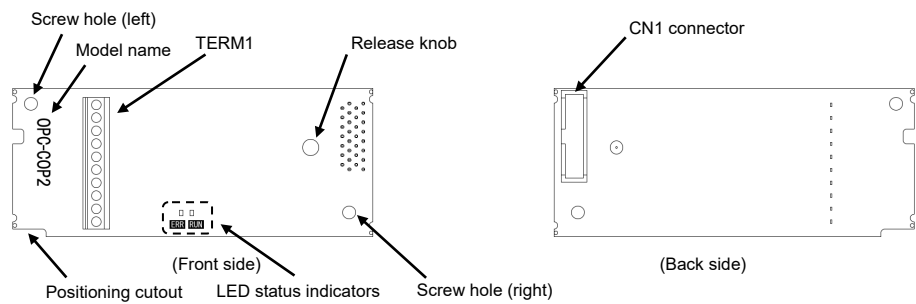

Figure 2.1 Names of Parts on CANopen Communications Card
- (1) A communications card, two screws (M3 × 8), and the CANopen Communications Card Instruction Manual (this manual) are contained in the package.
- (2) The communications card is not damaged during transportation--no defective parts, dents or warps.
- (3) The model name "OPC-COP2" is printed on the communications card (see Figure 2.1).
Figure 2.1 shows the names of the parts on the CANopen communications card.
- (2) Insert connector CN1 on the back of the communications card (Figure 2.1) into the option connection ports. Then secure the communications card with the two screws that come with the card. (Figure 3.2)
Note Check that the positioning cutout (shown in Figure 2.1) is fitted on the tab (① in Figure 3.2) and connector CN1 is fully inserted (② in Figure 3.2). Figure 3.3 shows the communications card correctly mounted.